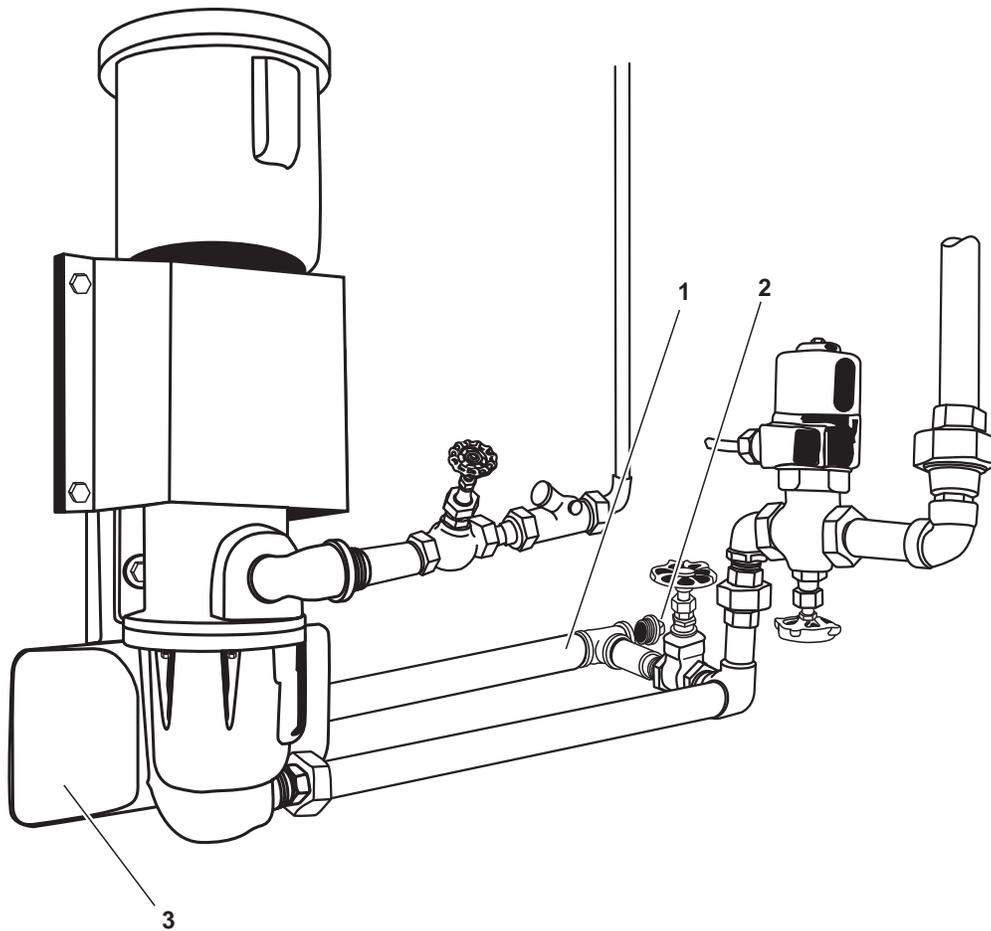

Figure 2. OWS Outlet Piping
- Place a suitable screen covered drain pan under the OWS outlet piping (figure 2, item 1).
- Slowly loosen the drain plug (figure 2, item 2) in the OWS outlet piping (figure 2, item 1) and allow any trapped pressure to escape.
4. Remove the drain plug (figure 2, item 2) from the OWS outlet piping (figure 2, item 1) and allow the OWS tank (figure 2, item 3) to drain.